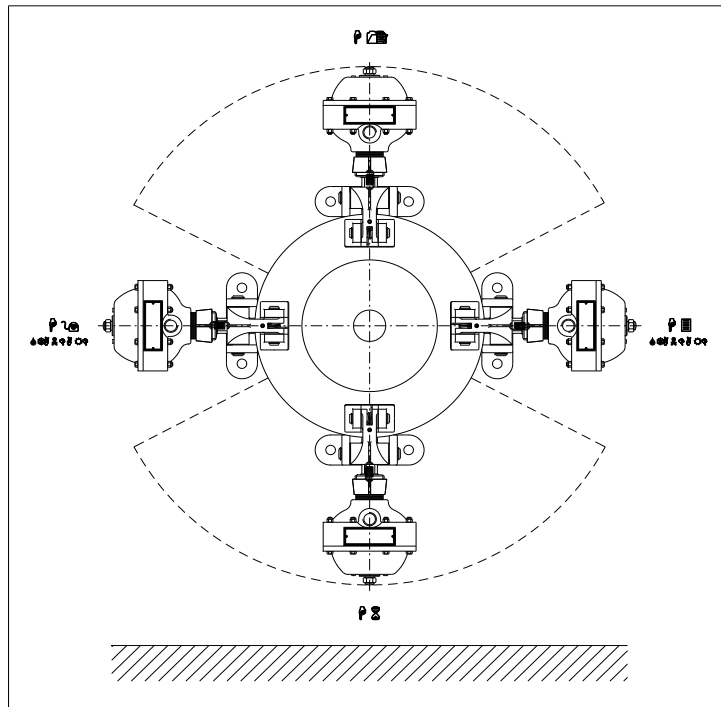

Figure 1
- The brake must be mounted in a horizontal position (H3 - H9) as shown in Figure 1 so that the weight of the thruster does not bear on the levers. The brake can be supplied on request with a lever balancing system for vertical mounting, specifying either H6 or H12.